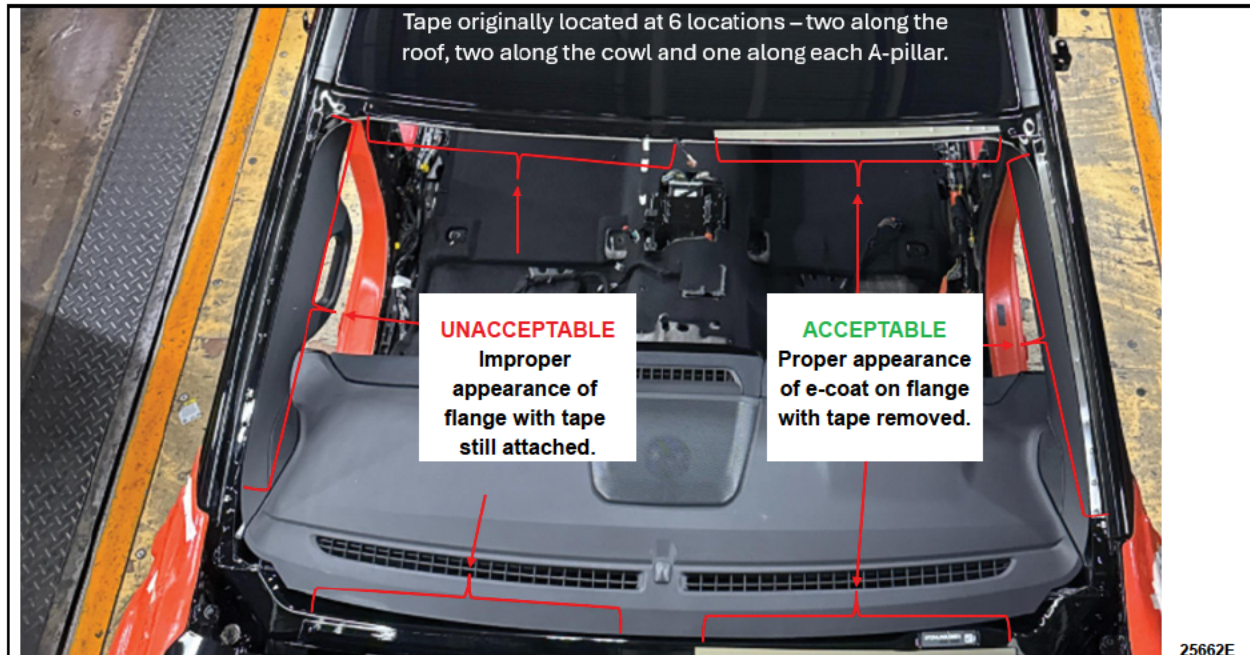

FIGURE 1
3. After removal of windshield, remove any pieces of painted masking tape from the flange that exists below the urethane as well as any urethane along the tape locations. See Figure 1.